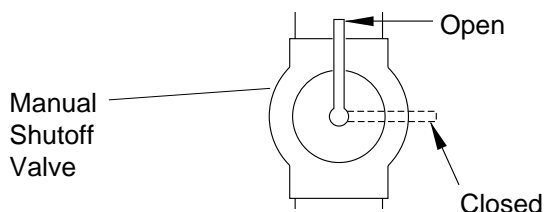

Figure 19 - Manual Shutoff Valve
1. Close manual shutoff valve (see Figure 19).
1. Open manual shutoff valve (see Figure 19).